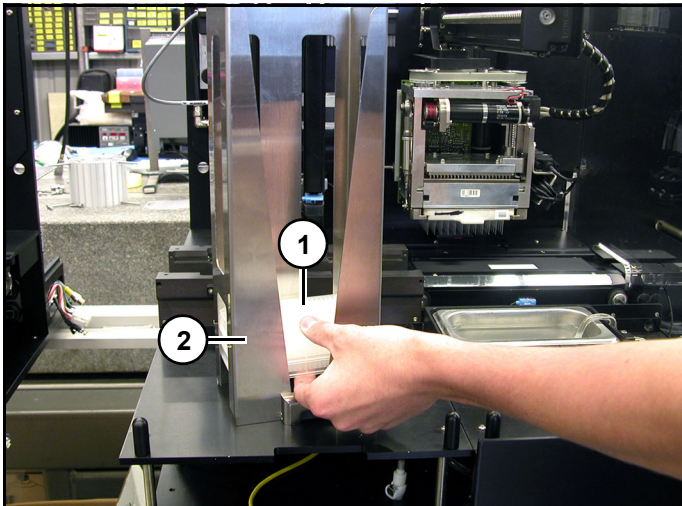

Figure 5
Carefully lower stack of plates (1) to bottom of chute (2). (Figure 5)